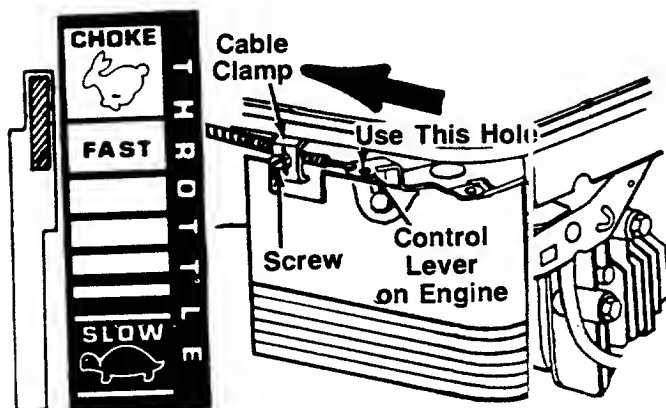

FIGURE 5.
1. Push the throttle control lever on the handle all the way forward to CHOKE position. See figure 5.
2. The throttle control cable is attached to the upper handle. Route the throttle control cable under the lower handle. Route the cable to the outside of the handle wheel bracket assembly and height adjustment lever then in back of the engine. Hook the "Z" end of the throttle control cable into the hole in the control lever on the engine shown in figure 5.
3. Using a screwdriver, remove the screw and cable clamp shown in figure 5.